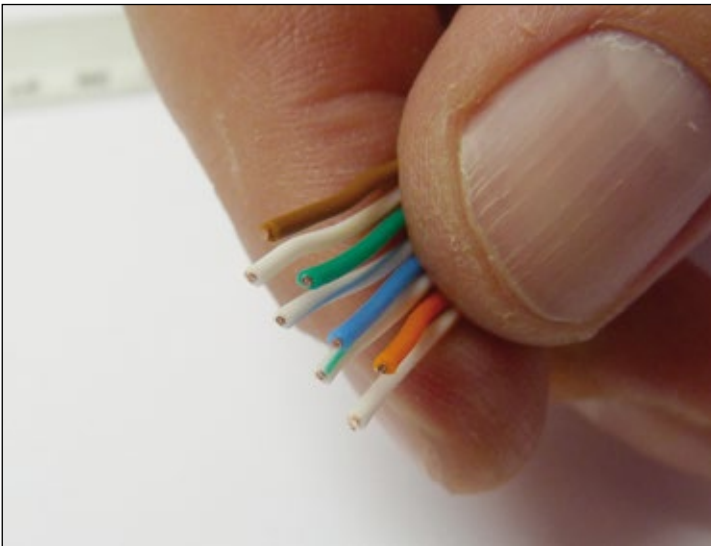

**Figure 9**
- 8 Proceed to measure an approximate length of 30mm from the jacket end and make a straight cut with the cable Crimp tool cutter as shown in **Figures 9 and 10**.